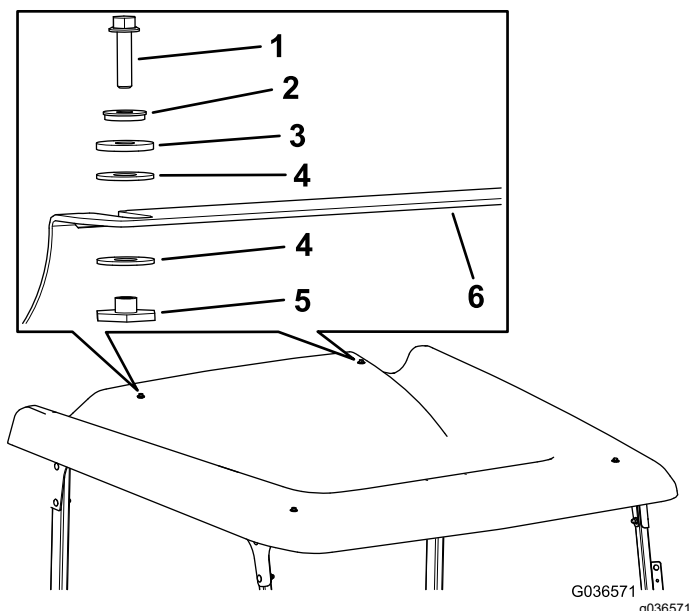

Figure 65
2. Install the sunshade to the rear crosslink using 2 hex-flange bolts (1/4 x 1 inch), 2 sealing washers, 2 friction washers, 4 plastic washers, and 2 flange bushings (Figure 65).